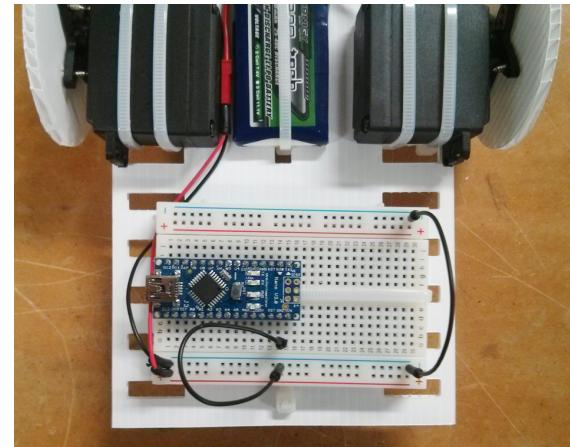

Figure 1-7 Distributing power
7. Start by creating a battery power rail. This goes to the back of the breadboard and gives you at least 7.4V. Join the grounds on both sides of the breadboard together. Mount the Arduino Nano at one end and join its ground. As you can see with the Nano, position it to either side of the main channel, over the cable tie, and position the USB connection on one side so it's easy to plug in, as shown in Figure 1-7.